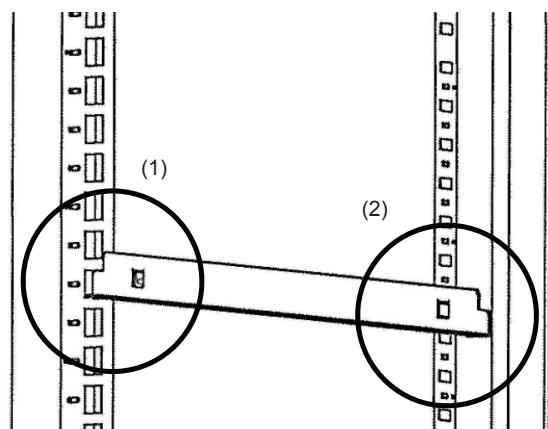

Fig. 8
- \* To attach the rail, (1) push the rail hook backwards to fit into the square hole in the rear shelf post, and (2) push the rail hook down to fit into the square hole in the front shelf post. To detach the rail, reverse the above procedure. See Fig. 8.